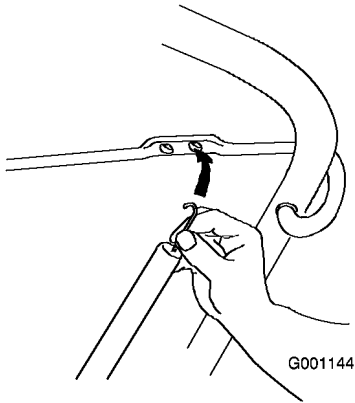

Figure 5
- Hook the end of the control cable spring into the bottom hole of the control bar (Figure 5).